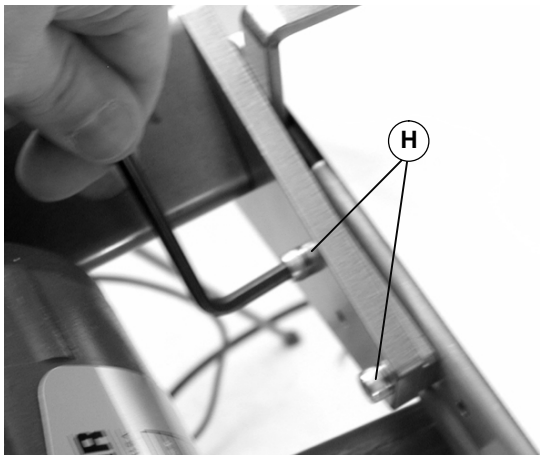

Figure 13
6. Tighten the mounting screws (H of Figure 13) to 146 in-lbs (16.4 N-m)